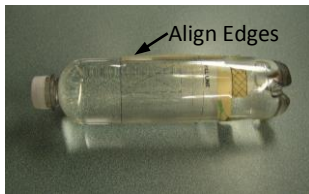
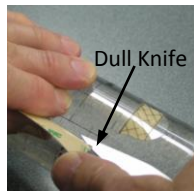

Figure 9.
Figure 10.
| 6. Tape measure, figure 10. (Optional)    |   |
**Install the wrap.** With the waxed paper still in place covering the bottle label glue, or if glue has been removed, form the wrap tightly around the middle of the bottle. The bottle should be full of water for rigidity. The wrap should be oriented so that the tabs are facing towards the bottom of the bottle and the straight end of the wrap is facing toward the neck of the bottle. The “Fill Line” text on the wrap should read correctly, not inside-out. The long strip of preinstalled adhesive tape on the wrap should lap outside the mating edge of the wrap. Adjust the wrap so that the edges are aligned, figure 9. Carefully hold the wrap to maintain a tight fit around the bottle while keeping the edges in alignment. Allow the taped edge of the wrap to spring out allowing access to the long tape strip. Remove the adhesive backing using a dull knife, finger nail, or tooth pick, figure 10. Be careful not to touch exposed adhesive strip. Keeping the wrap tight to the bottle and the edges aligned, carefully push the long adhesive strip down making contact with the other edge of the wrap. The wrap should form a tight circle around the bottle and the edges should be aligned.